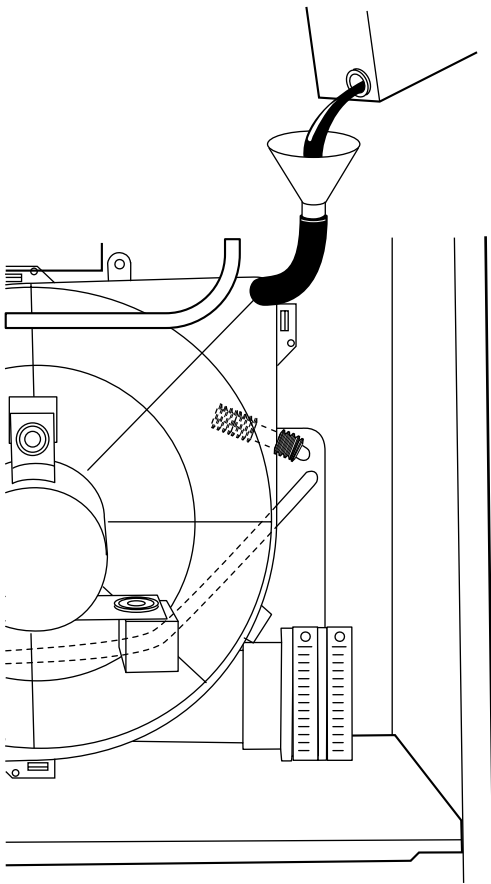

Fig. 15—Funnel in Drain and Antifreeze Running Through Trap
The electrical ground and polarity for 115-v wiring must be maintained properly. Refer to Fig. 11 for field wiring information and to Fig. 15 for unit wiring information.
5. Insert funnel in drain tube and pour up to 1 quart antifreeze, propylene glycol (RV, swimming pool antifreeze, or equivalent) into funnel until it is visible at point where condensate enters open drain. (See Fig. 15.)